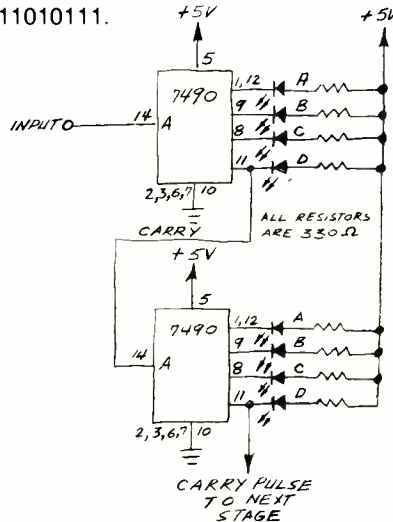

Fig. 1. How to connect two or more 7490 counters in series.
counter stage to the A input of the 7490 in the second stage (pin 14) as shown in Fig. 1. This neat solution to the absence of a carry pin works since the 7490 in the second stage triggers when the count from the first 7490 recycles from 1001 (9) to 0000. Also, it can be applied to a succession of counter stages.
The 7475 Four-Bit Latch. The multi-digit counter circuit in Fig. 1 is adequate for counting a series of events or the passing of time up to the maximum digit capability. Many counting applications, however, require the measurement of frequency (the count rate per unit time). For example, a frequency counter counts the number of incoming pulses during a preset time interval (say, 1 second), then recycles and begins counting again. In cases like this the 7490 is always busy counting and all seven display segments will blur into a meaningless "8" if the count exceeds several pulses per second.